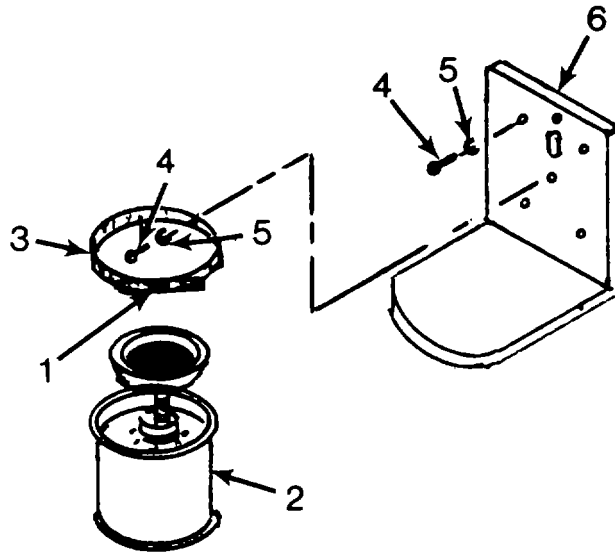

Figure 4-3. Plunger Can Assembly
- (1) Inspect plunger can for evidence of leaking.
- (2) Inspect mounting bracket for security of mounting.
b. Replace. (See Figure 4-3.)
b. Replace. - Continued (See Figure 4-3.)